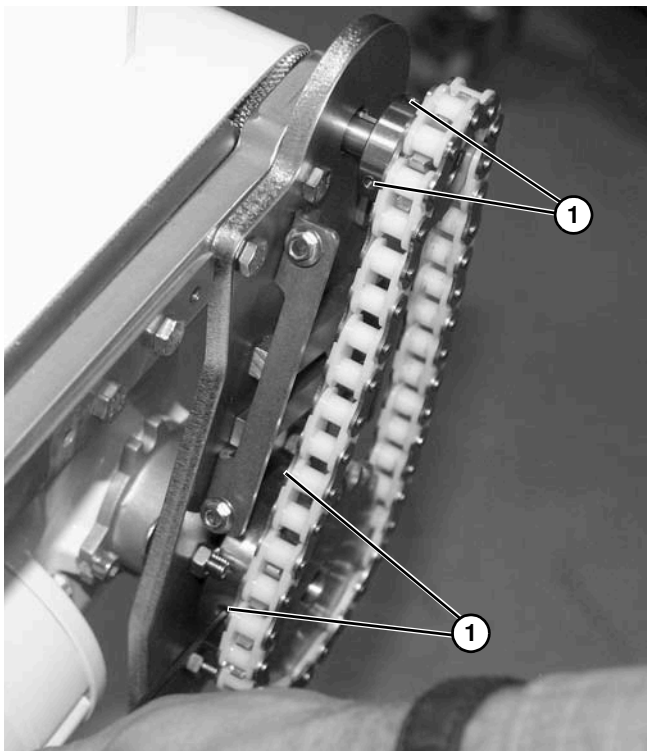

Figure 52
5. Loosen four set screws (Figure 52, item 1).